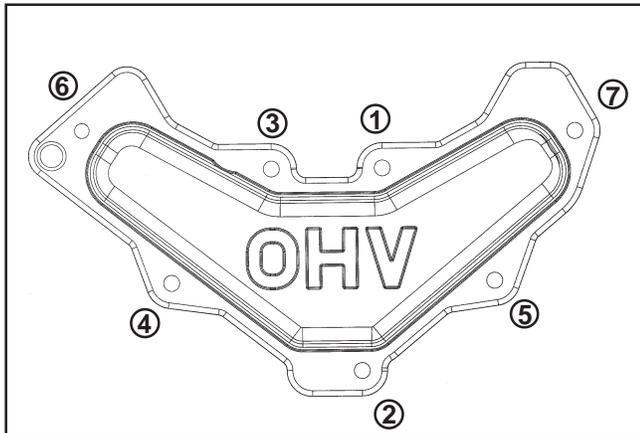

Figure 10-41. Valve Cover Torque Fastener Sequence.
- Torque the valve cover screws to **11.0 N-m (95 in. lb.)** into new, as-cast holes, or **7.5 N-m (65 in. lb.)** into used holes, using the sequence shown in Figure 10-41.